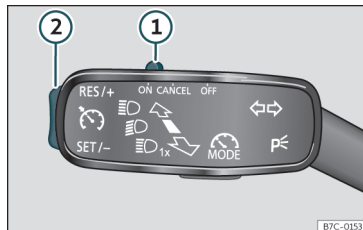

Fig. 43 Left of the steering column: CCS switch and controls.
- Switching on the CCS: Move switch »» Fig. 43 (1) to **ON**. The system is on. If no speed has been programmed, the system will not control it.
- Activate the CCS: Press button »» Fig. 43 (2) in the **SET/-** area. The current speed is memorised and controlled.
- Temporarily switching off the CCS: Move switch »» Fig. 43 (1) to **CANCEL** or push the brake. The cruise control system is switched off temporarily.
- Reactivating the CCS: Press button »» Fig. 43 (2) in **RES/+**. The memorised speed is saved and controlled again.
- Increasing stored speed during CCS regulation: press button (2) in **RES/+**. The vehicle accelerates until the new stored speed.
- Reducing stored speed during CCS regulation: press button (2) in **SET/-** to lower the speed by 1 km/h (1 mph). Speed is reduced until reaching the new stored speed.
- Switching off the CCS: Move switch »» Fig. 43 (1) to **OFF**. The system is disconnected and the memorised speed is deleted.